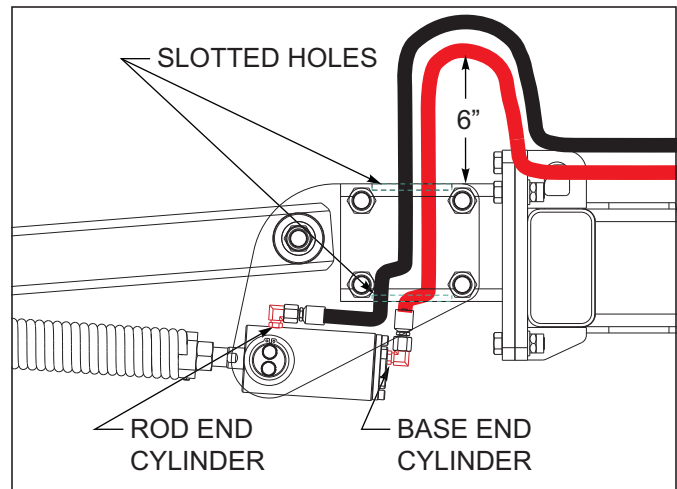

Figure 3-32: Hose to Cylinder Installation
7. On hydraulic Chopper Reel option, attach hoses down through the slotted holes of combo harrow mount arm to cylinders as shown *See Figures 3-32.* The one hose hooks to base end of cylinder to top set of holes of 8 port manifold, rod end to bottom holes of manifold.